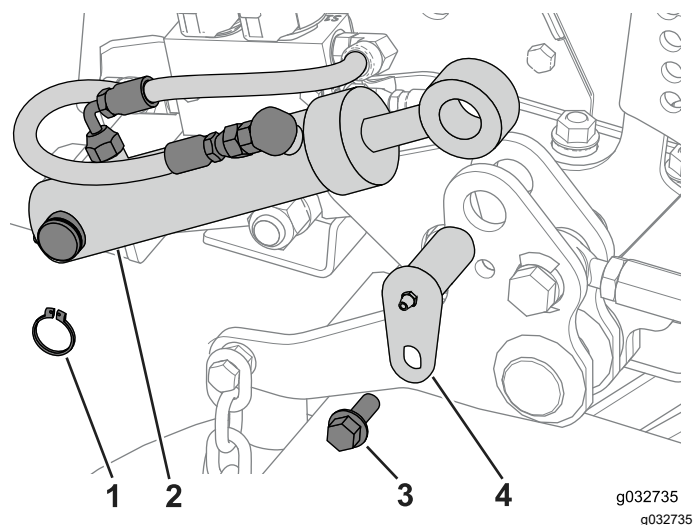

Figure 123
3. Use the retaining ring, pivot pin, and bolt to secure the deck-lift cylinder to the pivot post (Figure 123).